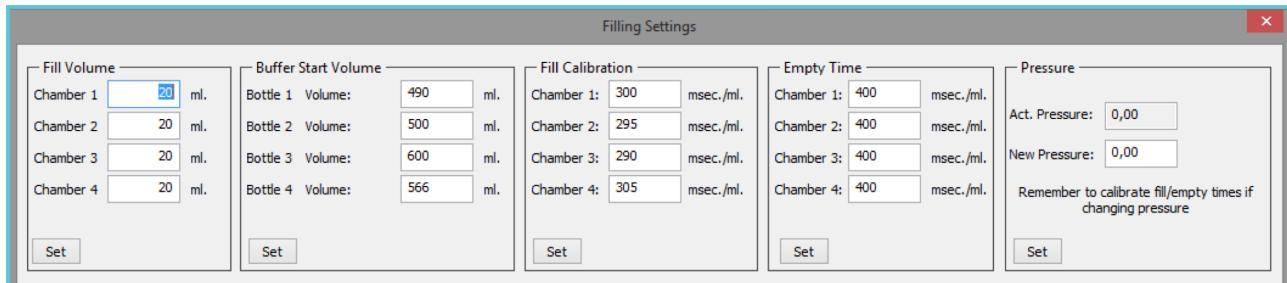
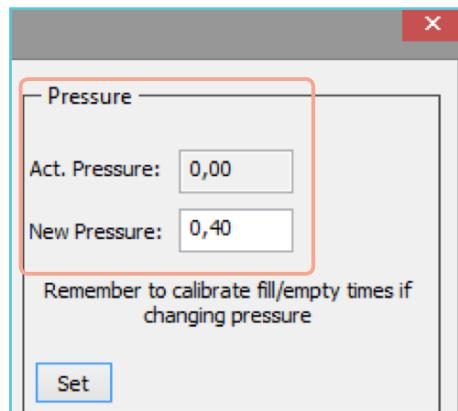

Figure 34: The Pressure sub-menu.
Figure 35.
- **Pressure:** The Pressure is set at a default of 0.400 bar (figure 34). One can set or reset the target pressure anywhere between 0.01 and 0.999 Bar, by clicking on 'Set' (figure 35).